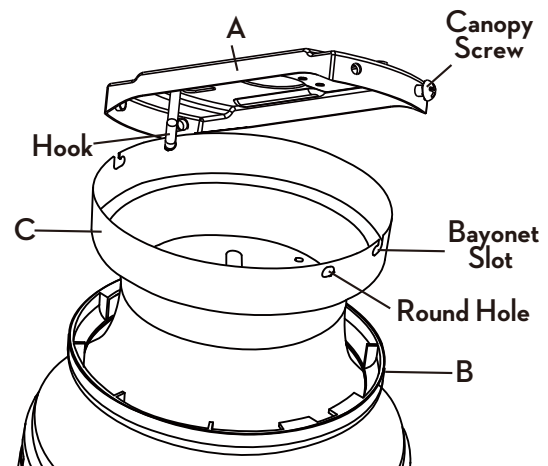

Figure 5
- Place the canopy ring (B) through the top of ceiling canopy (C).
- Before making the electrical connections, engage one of the screw holes at the top of the ceiling canopy with the hook on the mounting plate (A) (Figure 5).